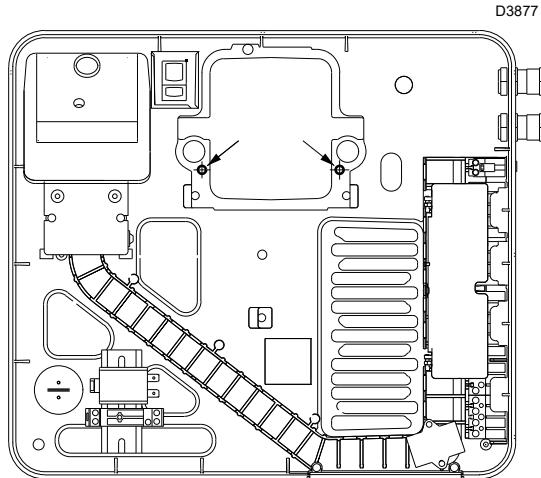

Fig. 28
- Finally, you can use 2 of the 3 screws 10)(Fig. 29) to fix the electrical panel to the pipe coupling at the points indicated in Fig. 28, and then carry out the maintenance operations.